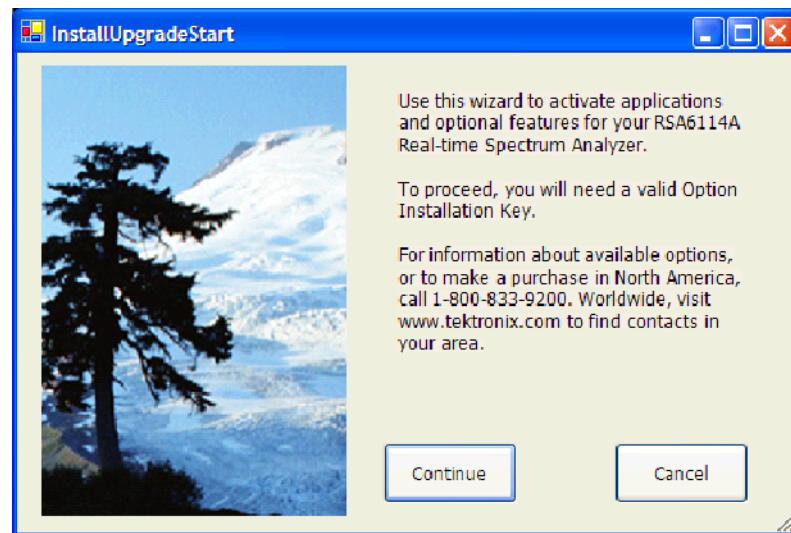

Figure 9: Starting the option upgrade
1. In the spectrum analyzer application, select **Tools > Install Upgrades**. The Install Upgrade wizard starts, as shown in Figure 9. Click **Continue**.